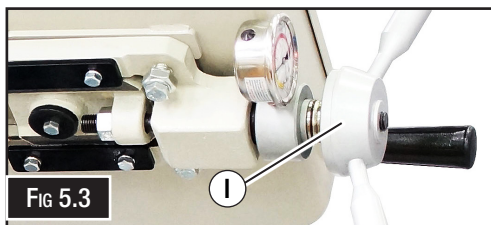

FIG 5.3
- I. **Blade Tension Knob and Gauge:** Rotate clockwise to increase or counterclockwise to decrease blade tension. (Fig. 5.3)